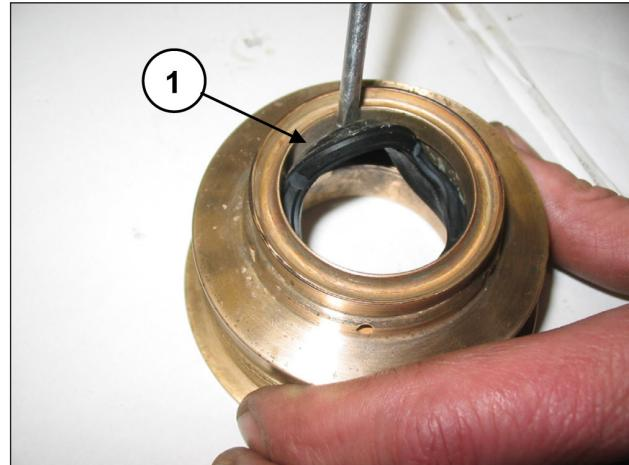

Fig. 148
To remove the low pressure seal, use a thickness gauge or another tool which will not damage the seal support housing (pos. ①, Fig. 148).